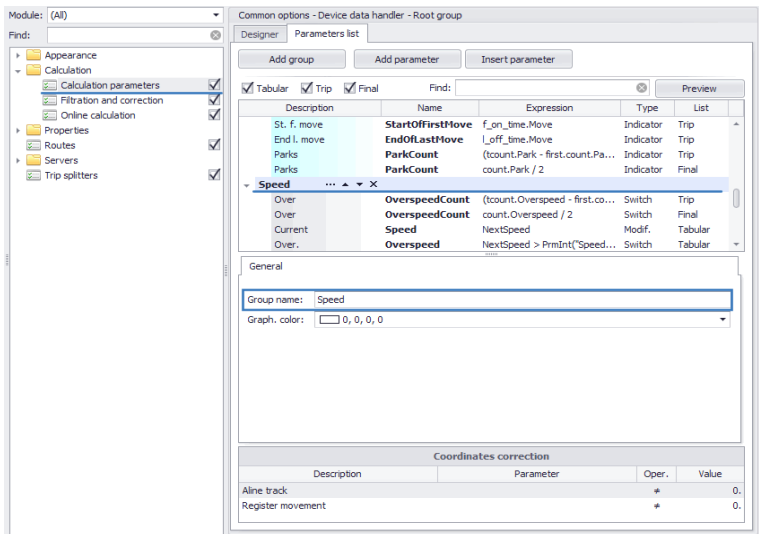

Fig. 115. Parameters group name.
**Group** – this filter allows displaying the selected stage group in Stages viewer. In this case the list containing all stages of the selected group will be available in Stages viewer. The user will be able to select the desired stage in that list. To carry out filtration based on the desired group, set that group’s name in the “Group / parameter” field. The group name is displayed in the “Options” menu, the “Calculation” section, in calculation parameters list (Fig. 115).